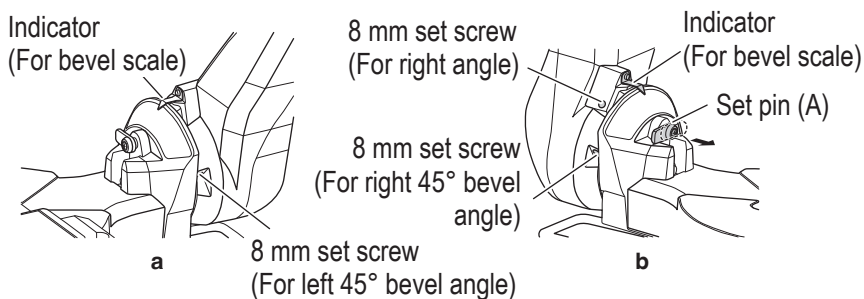

Fig. 9
When changing the adjustment, change the height of the 8 mm set screws by turning them. (**Fig. 9-a, Fig. 9-b**)
To change the bevel angle to the right at 45°, move the sub fence (A) outward and loosen the bevel lock handle, then pull out the set pin (A) toward the front, and tilt the motor head to the right. (**Fig. 9-b**)
When adjusting the motor head to 0°, always return the set pin (A) to its initial position as shown in **Fig. 9-b**.